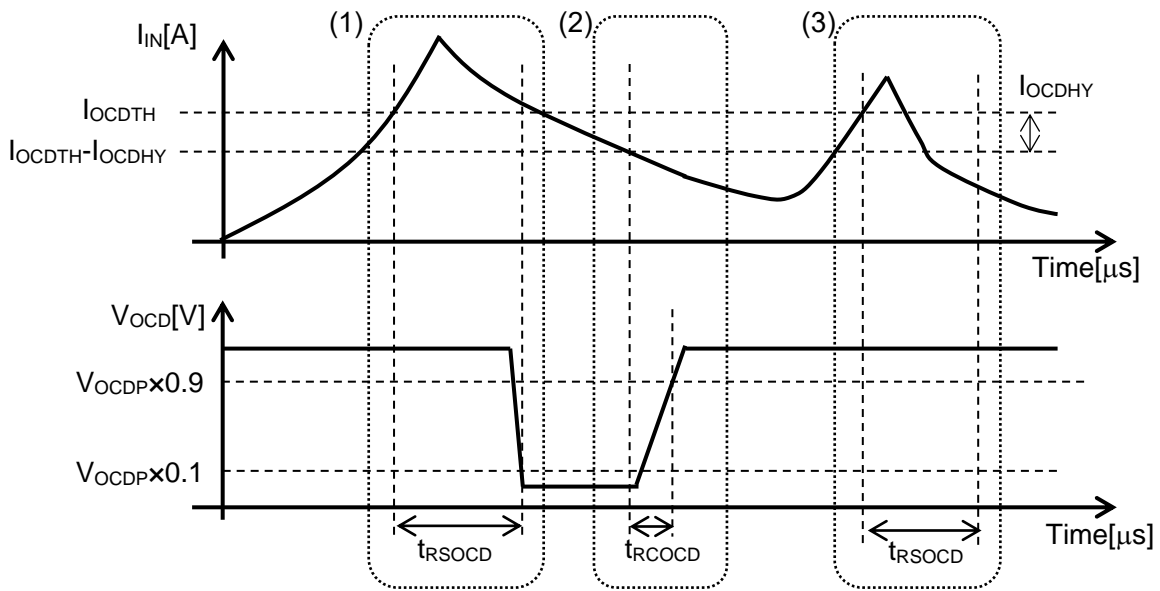

Figure 6. Overcurrent Detection Function of CZ-3AG3
**10.4. Overcurrent Detection Function is operated as below. (See figure 6.)**